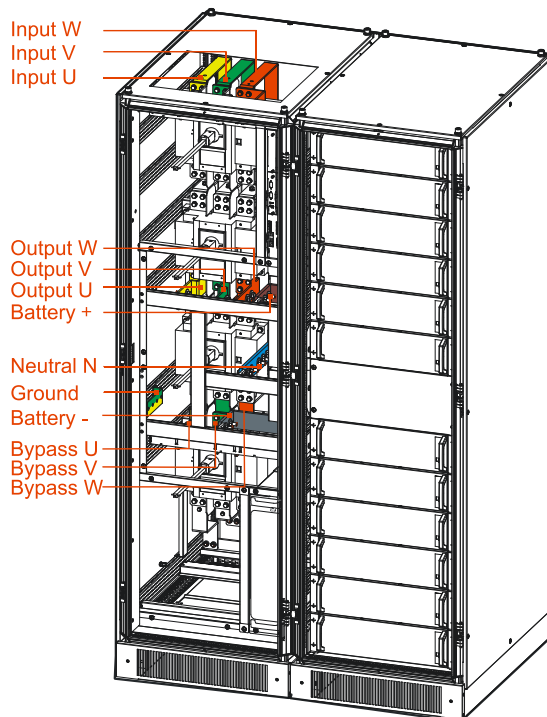

Figure3-33 Wiring terminal of distribution cabinet
Step 3 Connect the input wires, output wires and battery wires according to Figure3-33 in proper order, and then fasten the bolts.